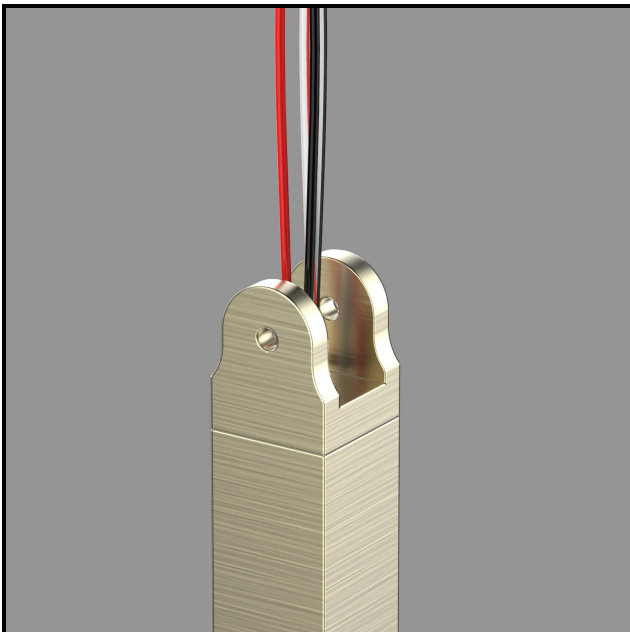
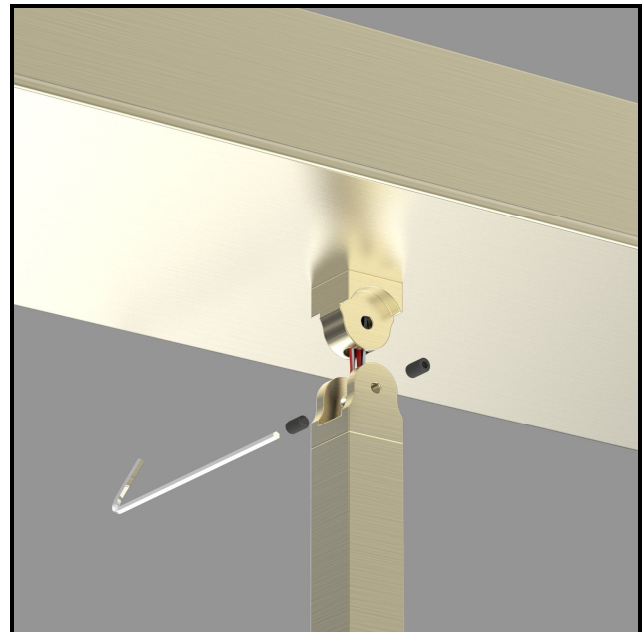

Figure 5
Figure 6
- Secure in place by threading saddle onto end of tube. Be sure saddle aligns with the side of the stem casing, and aligns with the fixture itself. (Figure 5)
- Carefully align the stem saddle from Figure 5 with the canopy anchor block. (Figure 6)